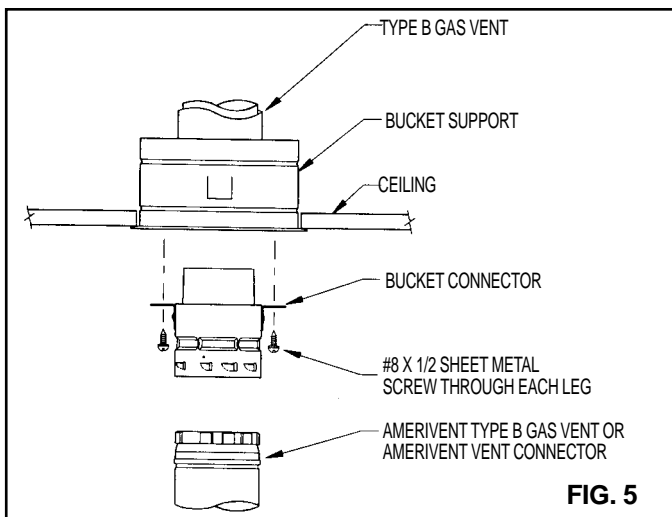

FIG. 5
1. The Bucket Connector is installed by positioning it against the bottom of the AmeriVent Bucket, as shown in Fig. 5 with the mounting tabs against the bottom of the bucket.